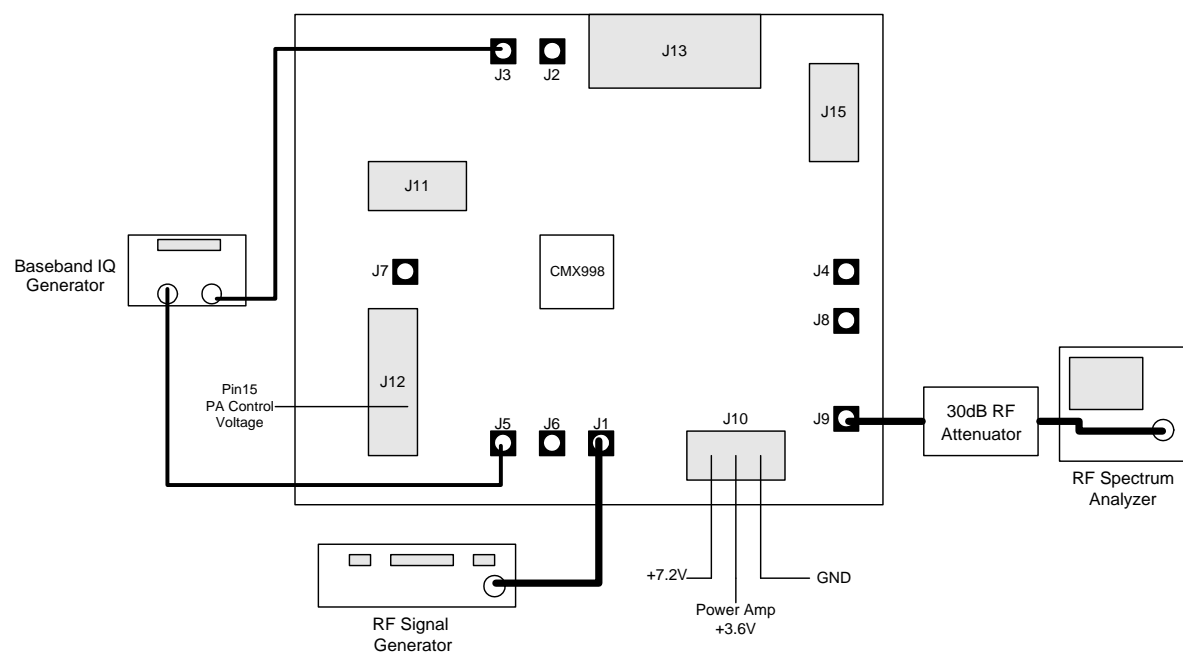

Figure 2 – Typical Evaluation Connections for EV9980
2. Connect test leads as shown below in Figure 2.